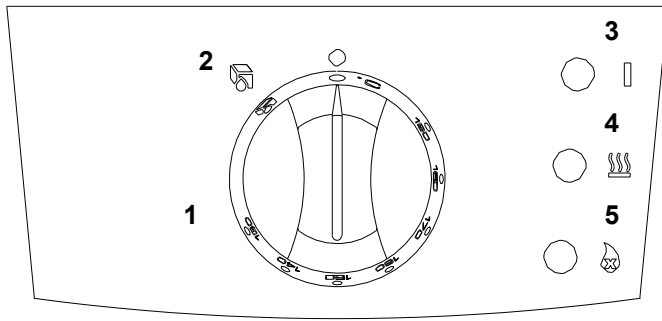

Figure 3 – G2845F Control Panel
(See Figure 3).
- 8) After three unsuccessful lighting cycle attempts, an indicator (5 on G2845F, F on G2844F *figures 3 and 4 respectively*) will illuminate to indicate that lockout has occurred and that no burner flame is present.